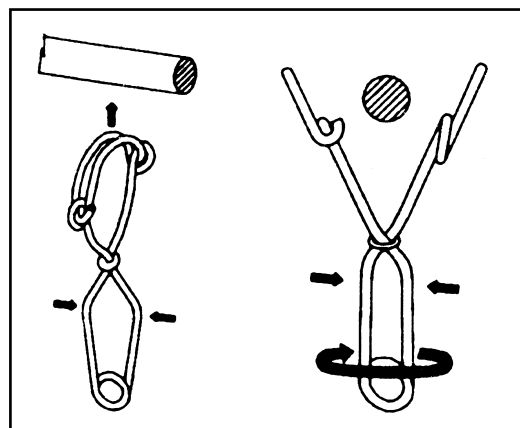

Fig. 1
3. Squeeze the hand grip together as shown in figure 1.